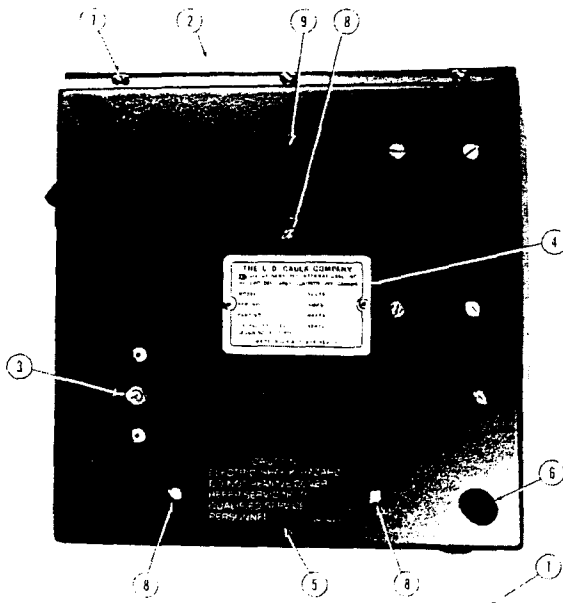

Figure 3. Bottom Panel
1. UNIT HOUSING REMOVAL — See Figure 3.
- a. Remove three mounting screws (8) and lift housing from unit.